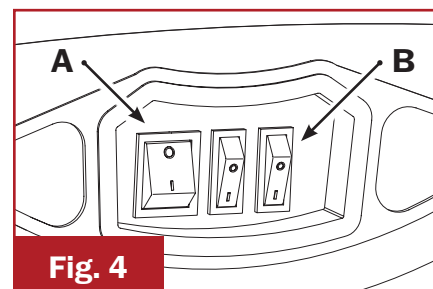

Fig. 4
1. Make sure that the main switch (A) is in the [OFF] position and plug in the machine. (Fig. 4)
3. Turn the main switch (A) to [ON] position; the refrigerant group unit will automatically start. (Fig. 4)
4. To start the mixing action, turn the mixing system switch (B) to [ON] position. There is a switch for each Bowl. (Fig. 4)